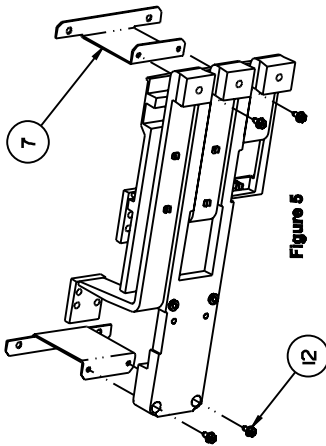

Figure 5
6. Reference fig. 5 - Attach the Mounting Brackets. Locate two $\varnothing 0.312$ " holes at one end of the Support Barrier, insert two 1/4-20 X 1/2" screws (item 12) through the holes and then into the two $\varnothing 0.228$ " holes at the small end of the Barrier Mount Bracket (item 7) and tighten. Repeat this step for a second Mount Bracket at the other end of the Support Barrier.